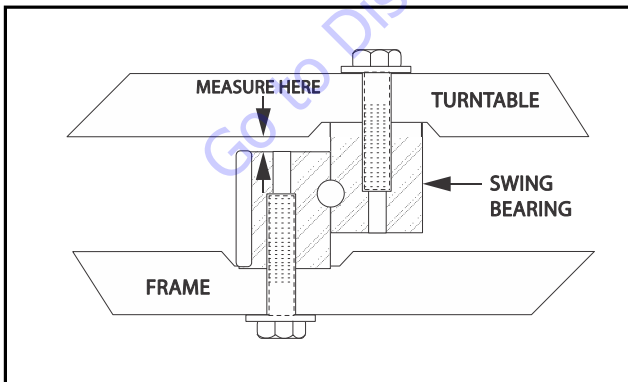
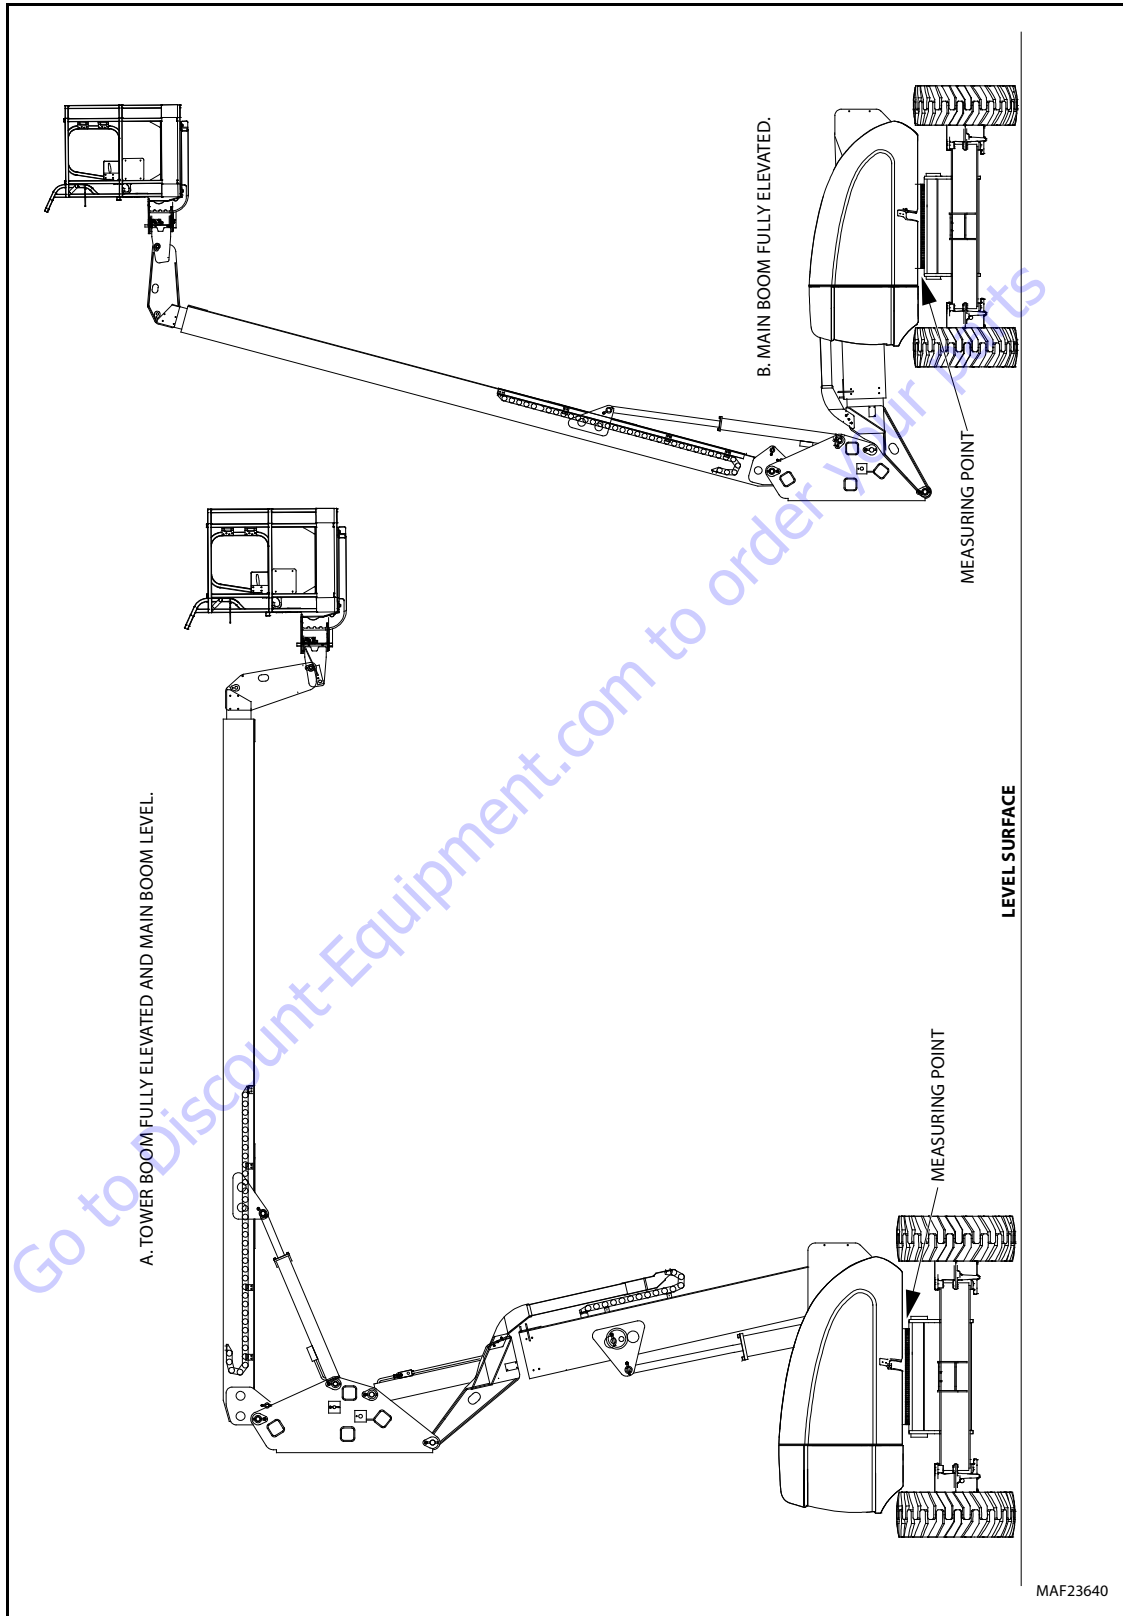

Figure 3-57. Swing Bearing Tolerance Measuring Point
Figure 3-58. Swing Bearing Tolerance Measurement Location & Boom Placement
1. From underside of the machine, at rear center, with the tower boom fully elevated and fully retracted, as shown in Figure 3-58. Swing Bearing Tolerance Measurement Location & Boom Placement A, using a magnetic base dial indicator, measure and record distance between swing bearing and turntable as shown in Figure 3-57. Swing Bearing Tolerance Measuring Point.
2. At the same point, with the main boom horizontal and fully extended, and the tower boom fully elevated as shown in the Figure 3-58. Swing Bearing Tolerance Measurement Location & Boom Placement B, using a magnetic base dial indicator, measure and record distance between swing bearing and turntable as shown in Figure 3-57. Swing Bearing Tolerance Measuring Point.
3. Refer to the Torque Sequence diagram as shown in Figure 3-58., Swing Bearing Torque Sequence Clean any residue off the new bearing bolts, then apply a light coating of High Strength Threadlocking Compound and install the bolts and washers through the frame and outer race of the bearing. Tighten the bolts to an initial torque of 190 ft. lbs. (260 Nm) w/Threadlocking Compound.
8. Following the Torque Sequence diagram shown in Figure 3-58., Swing Bearing Torque Sequence, tighten the bolts to a torque of 190 ft. lbs. (260 Nm) w/Threadlocking Compound.